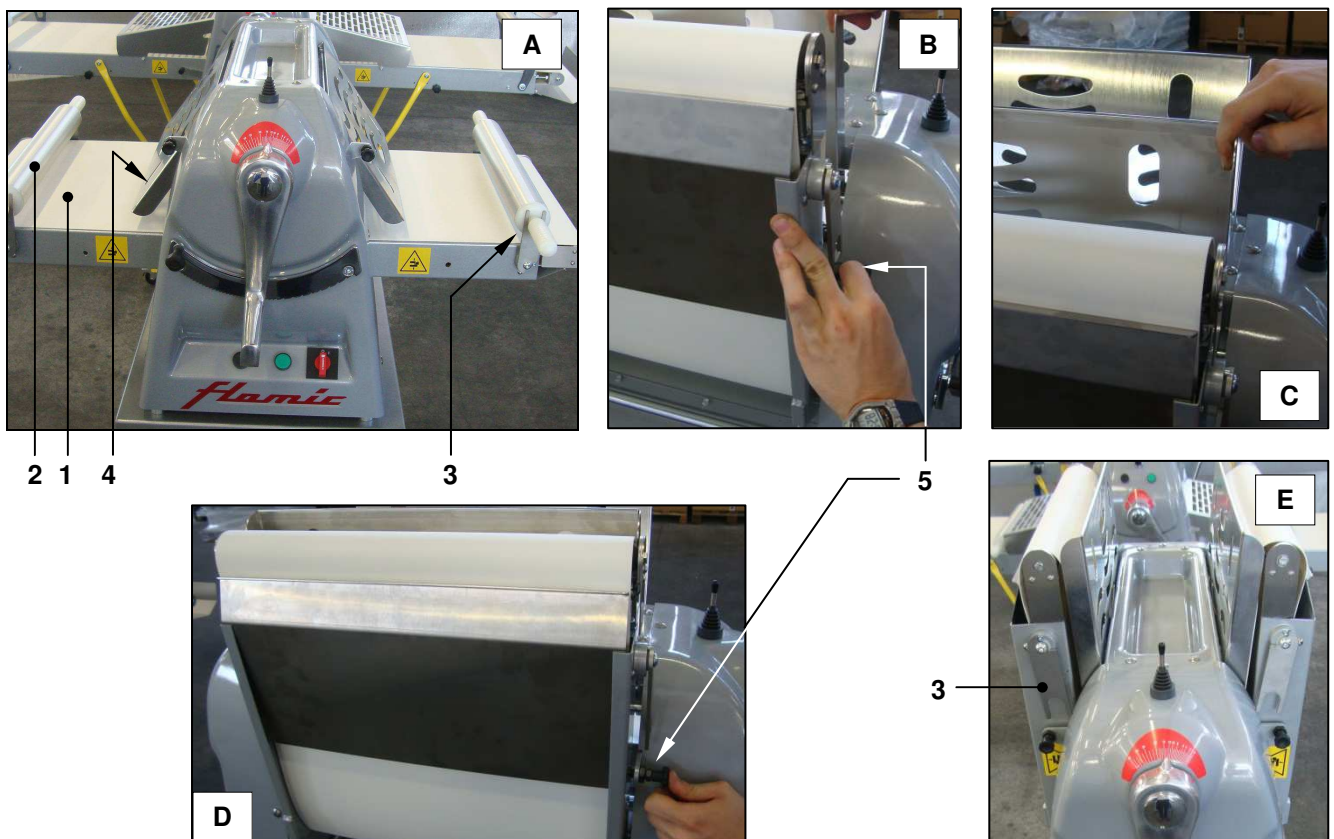

Figure 16 - Raising/lowering the benches (mod. SF450)
With reference to Figure 16, to move a bench ref. 1 from the position shown in photo A to the position shown in photo E:
- remove any rolling pins ref. 2 there may be and lower the relative supports ref. 3
- raise the guard ref. 4 completely (see section 3.5.1)
- raise the bench ref.1 keeping the pawl ref. 5 pulled out and move the guard ref. 4 (photo B - C) as far back as possible.
- insert the pawl ref. 5 into the corresponding hole in the side of the bench (photo D).
**WARNING! Make sure that the pawl ref. 5 is properly seated in order to prevent the bench from falling unexpectedly, which could hit an exposed person and cause severe bruising.**